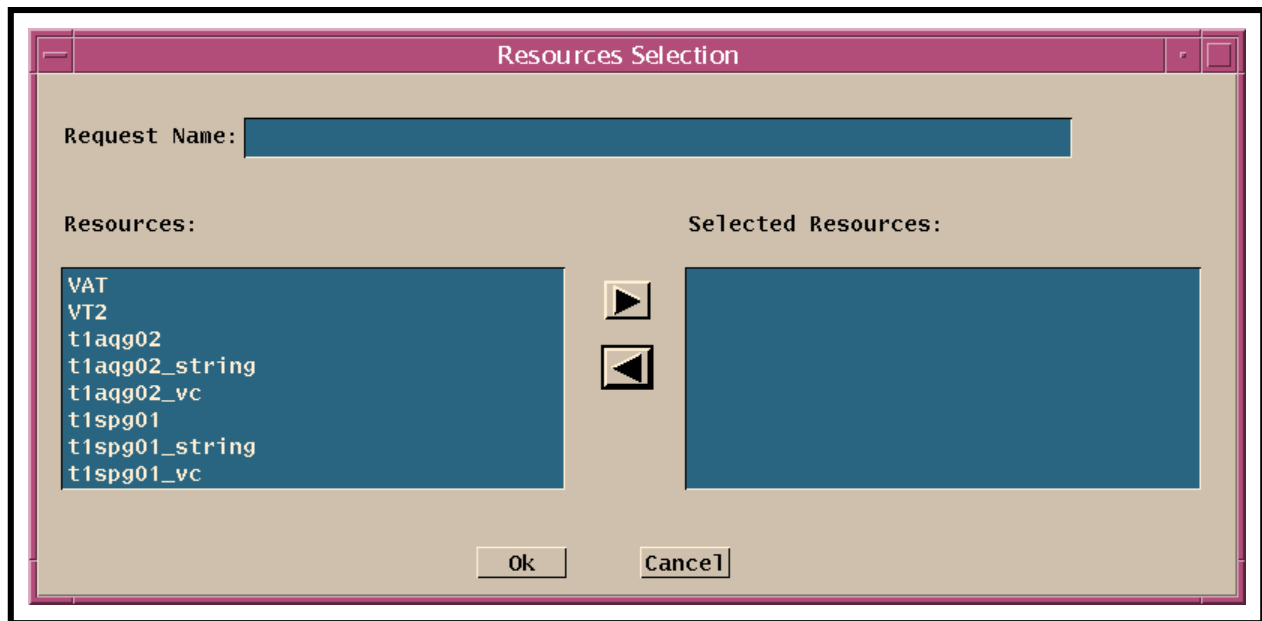

Figure 18. Resources Selection GUI
- The **Resources Selection** GUI (Figure 18) is displayed.